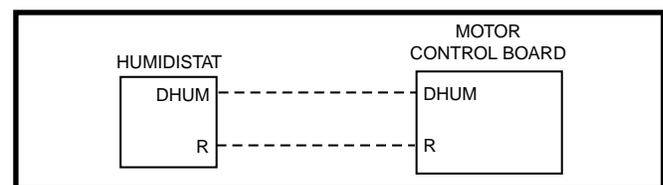

Figure 6. DHUM Wiring Configuration
1. If the room thermostat incorporates a humidity sensor and **DHUM** output, connect the **DHUM** on the thermostat to the **DHUM** terminal on the motor control board. See Figure 6.